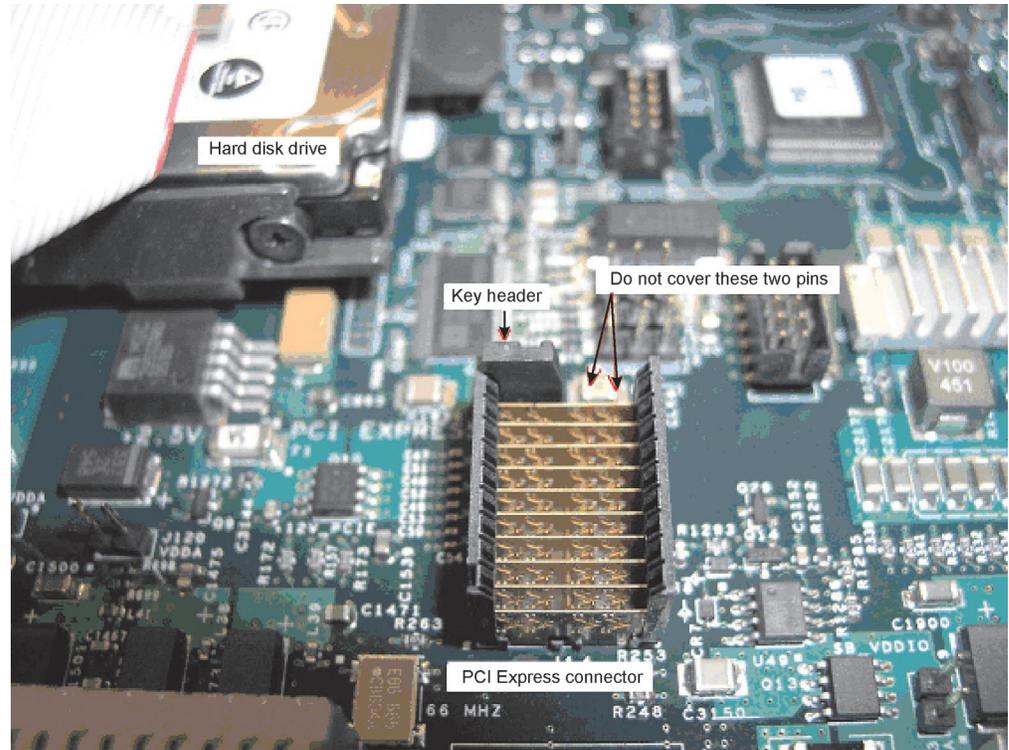

Figure 11. Where to place the key header on the BladeCenter QS20 board
6. Place the first key header on the respective BladeCenter QS20's PCI Express connector so that it covers the two contacts closest to the hard disk drive, see Figure 11 on page 49.